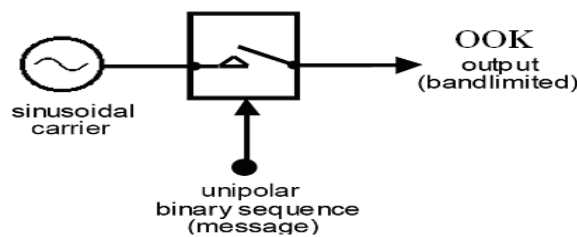

Fig.2 OOK generator
- 3- Simulate the block diagram of **Fig.2** for data rate equal to **1kb/s** and a carrier frequency of **10kHz**, then draw the spectrum of base band signal and modulated signal.